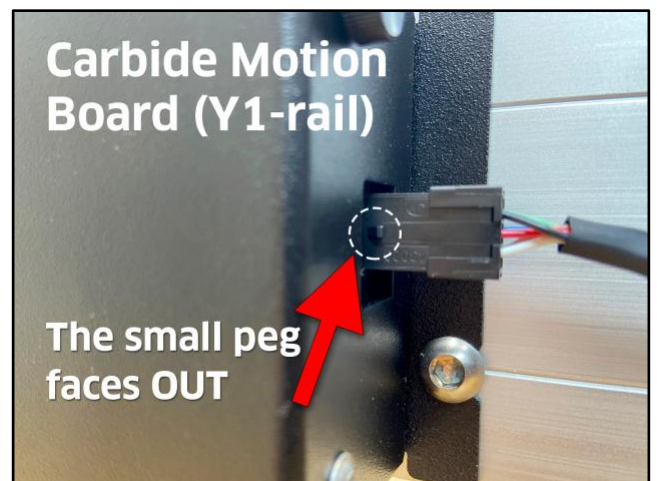

Figure 7
1. Plug the female end of the cable into the BitRunner connector protruding from the Carbide Motion board, with the small triangular peg facing **OUT** (**AWAY** from the Y1-Rail). See **Figure 7**. Press in and down to get the plug to seat fully.